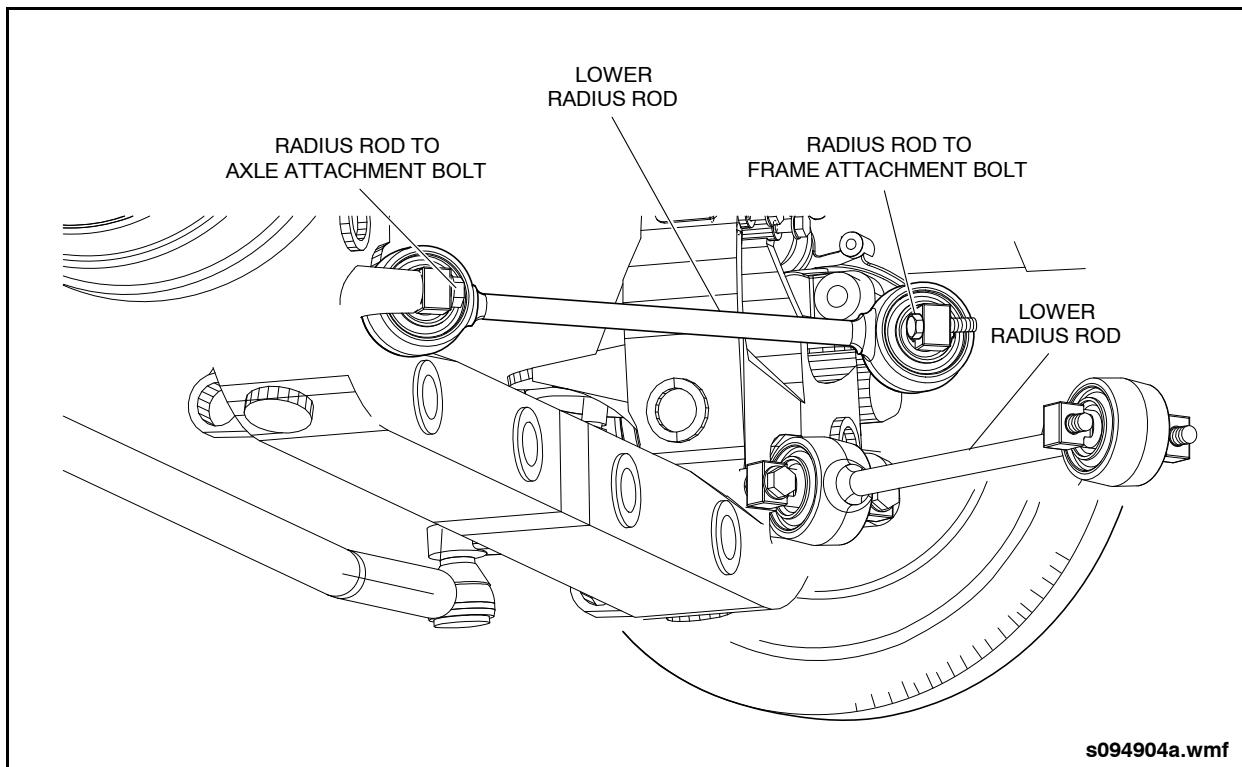

Fig. 1-2: Lower Radius Rod Removal
10. Remove two M18 bolts from each pivot pin retaining lower radius rods to vehicle frame. See "Fig. 1-2: Lower Radius Rod Removal" on page 4.